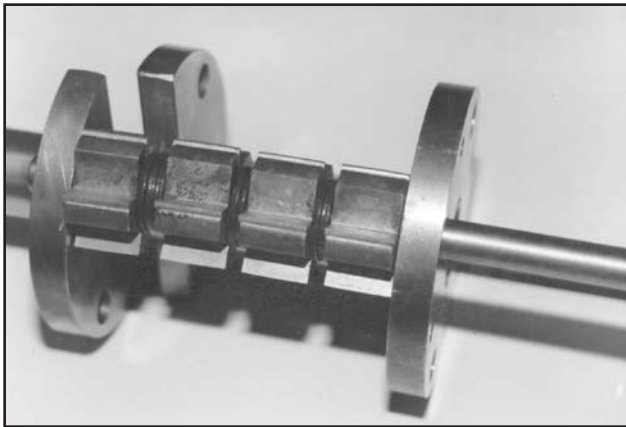

FIGURE 19
2) Install a flail next to the outside side plate of the wide section. Next, install two spacer washers. Follow with a flail and two spacer washers. Install another milling flail followed by three spacer washers. Finally, install the remaining flail and one spacer washer. The tungsten carbide inserts must be installed to form the same, continuous planing surface as in Step 1. FIGURE 19.